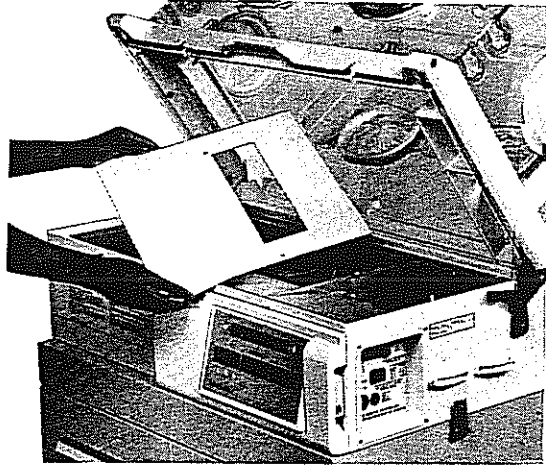

FIGURE 4.7 REMOVAL OF DECK PLATE GROUP
- I. **REMOVE THE DECK PLATE (GROUP 2).** Refer to Figure 4.7 and remove the Deck Plate.